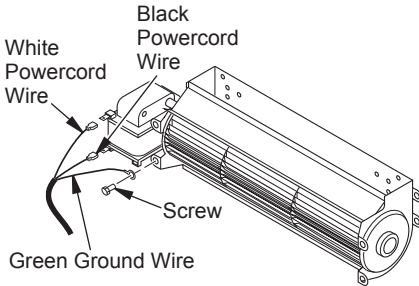

Figure 15 - Removing Wires from Blower
4. Install one plastic bushing provided in blower kit into the 1 1/2" hole in the left rear of firebox floor. Access hole through the rectangular opening in the rear panel (see Figure 15).
5. Disconnect power cord wires from blower motor (if connected) (see Figure 15).
6. Disconnect green ground wire from blower housing (if connected) by removing screw holding wire terminal (see Figure 15).
4. Disconnect power cord wires from blower motor (if connected) (see Figure 15, page 13).
5. Disconnect green ground wire from blower housing (if connected) by removing screw holding wire terminal (see Figure 15, page 13).